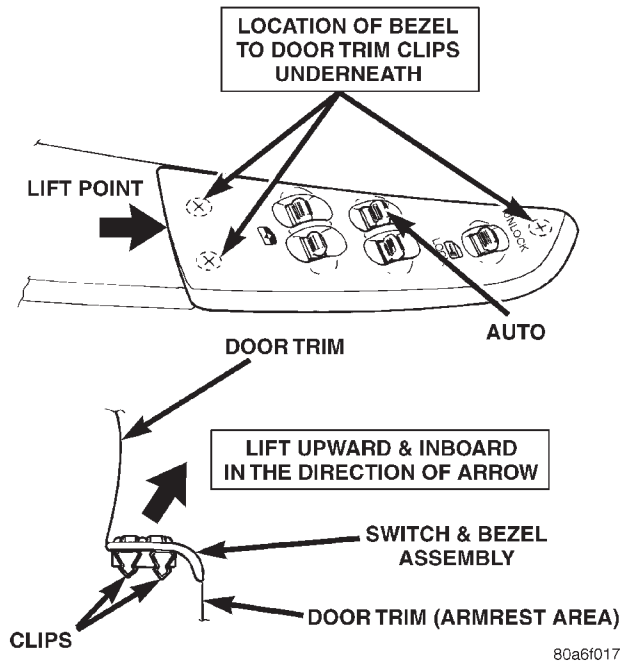

Fig. 3 Door and Switch Bezel
(1) Start at the rear center of the bezel. Using your fingers or a trim stick, lift the bezel upwards and slightly inboard to disconnect the two rear clips (Fig. 3). Use care not to mar the door trim.
(2) With the rear of the bezel raised, pull the forward end up to release the third clip.
(3) Disconnect the power window switches and door lock switch wire connectors.
(4) Release the locking tabs and remove door lock switch.